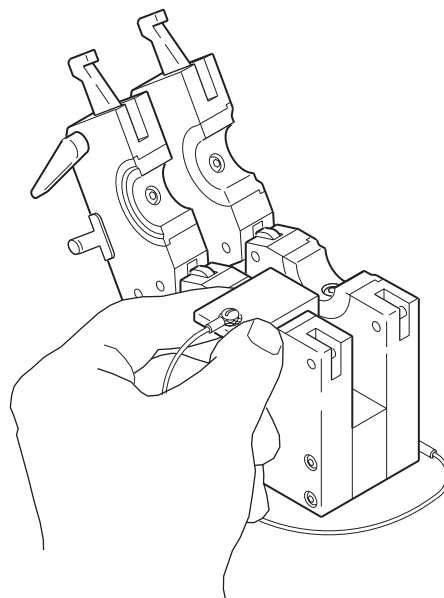

Figure 13 Place the Centering Gage
1. Place the centering gage in one side of the tube fixture block. The centering gage must span the width of the collet. See Figure 13.